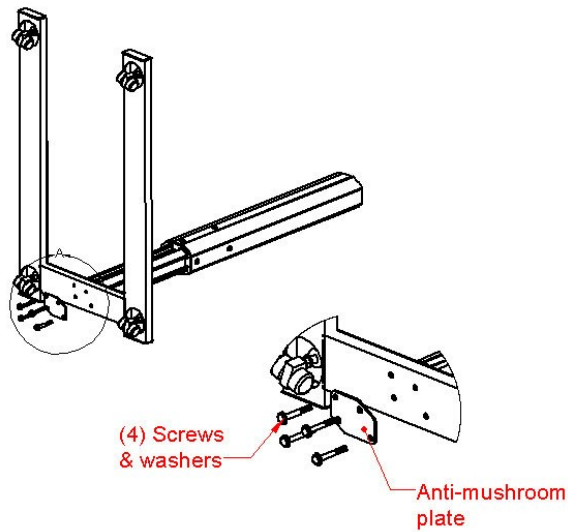

Figure 8
5.6 Remove the base. Place unit on a soft surface such as a blanket or carpet. Remove four bolts, washers & Anti-mushroom plate (Figure 8).
- 5.10 Attach the X-Base to the column using the screws, washers & anti-mushroom plate removed in step 5.6 (Figure 8).